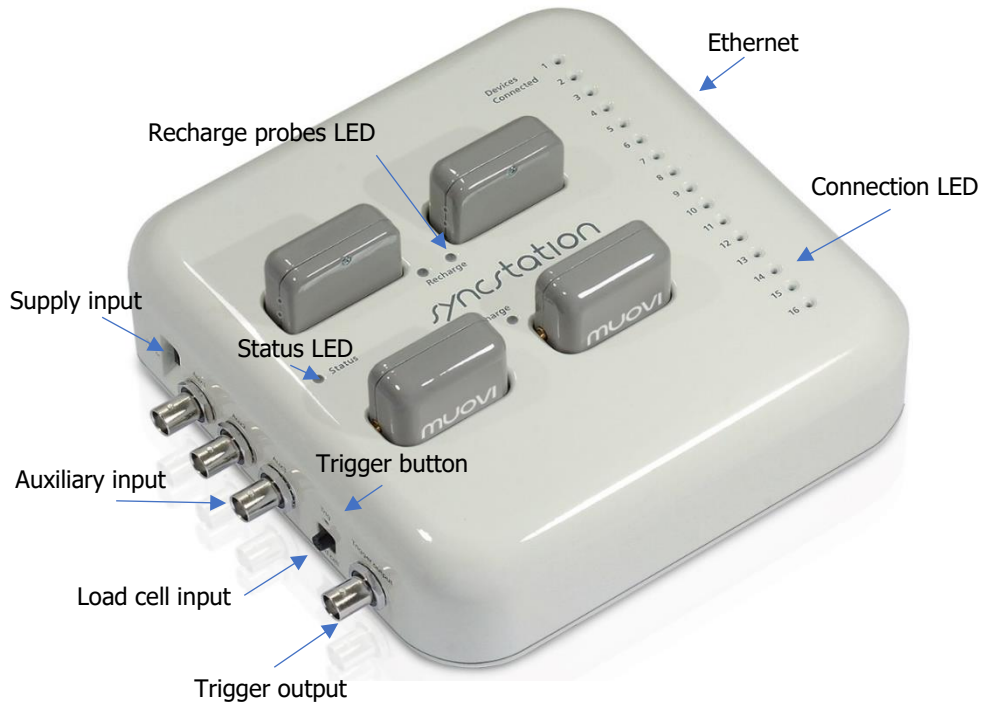

FIG. 7.2: SyncStation controls, connectors and indicators.
The MuoviPro system is equipped with a recharging and synchronisation base called SyncStation, shown in Figure 7.2, which is capable of recharging up to 4 Muovi probes simultaneously. Next to the housing dedicated to each Muovi probe, on the SyncStation, there is a LED (see Fig. 7.2) that indicates the charging status of the respective probe. The SyncStation base, as well as being the charging platform for the individual probes, also performs the following functions:
- Trigger signal generation, by pressing the related button (see Fig. 7.2)
- Trigger output through BNC-OUT (see Fig. 7.2)
The controls, indicators, and connectors on the SyncStation base are shown in Figure 7.2 and are described below.
On the SyncStation there are (with reference to Fig. 7.2): 6 connectors located on the left side, 1 connector located on the right side and 4 connectors located on the upper side: